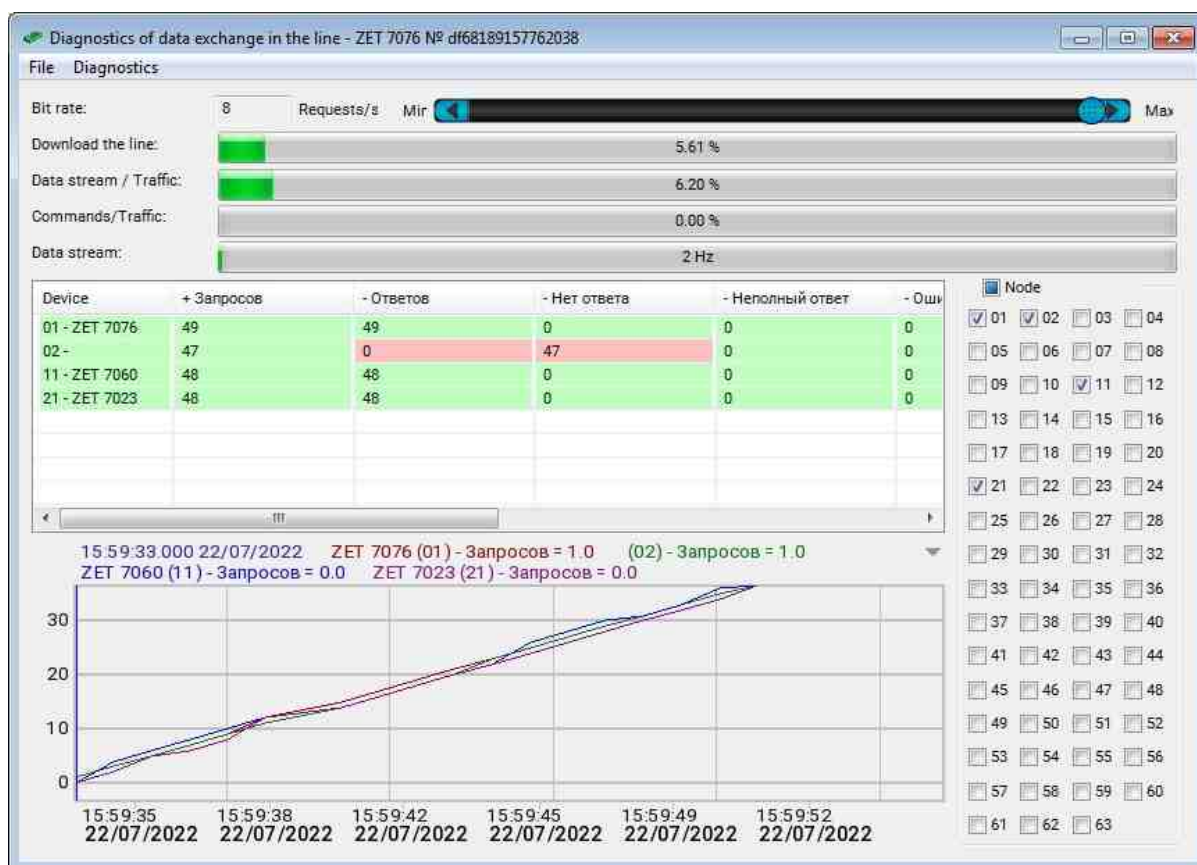

Fig.7.4 Diagnosed malfunction example
- Fig.7.4 illustrates a malfunction diagnosed on the measuring channel, which is associated with duplication of addresses No. 2 assigned to digital modules.